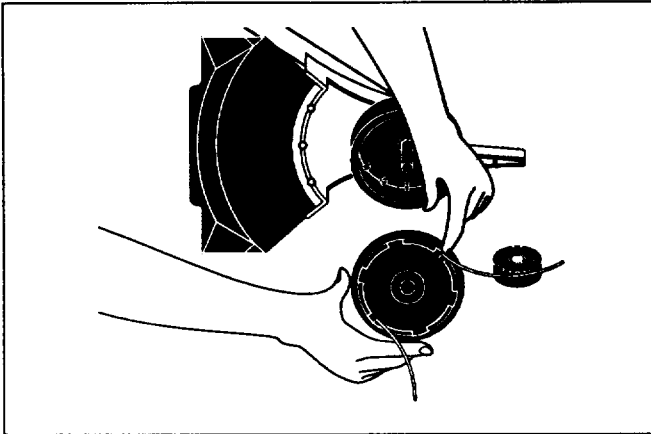

Fig. 17
3. Insert the ends of the line into the two holding slots (Fig. 17).